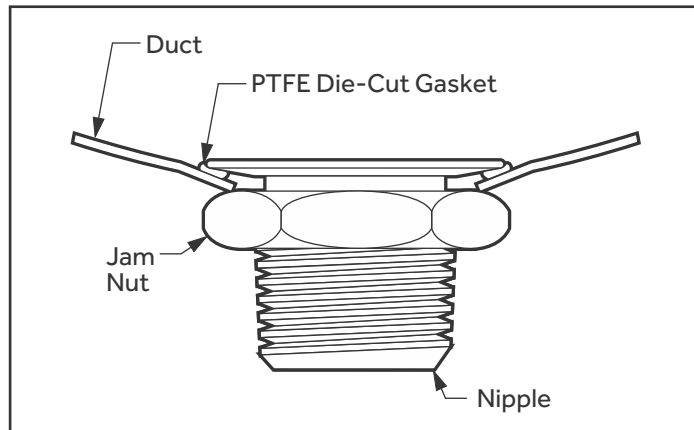

Fig. 37: Field Installed Nipple Configuration
4. Install Nipple: Remove backing and apply the die-cut gasket to the inside flange of the test port. Place the 1" (25.4) diameter test port in the swaged hole from inside the duct. Thread the matching jam nut onto the test port and tighten until snug. Using the appropriate size wrench on the jam nut and the flats on the test port, tighten the jam nut until there is resistance to further tightening. Installation is complete. (Fig. 37)